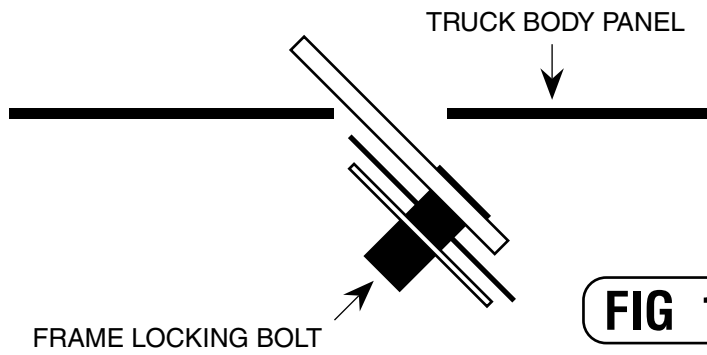

FIG 1
- STEP 2** INSTALL FRAME LOCKING BOLTS INTO TRUCK BODY, USING THE BRACKETS TO DETERMINE CORRECT LOCATION. REFER TO FIG. 1 & 2 FOR CORRECT INSTALLATION METHOD.